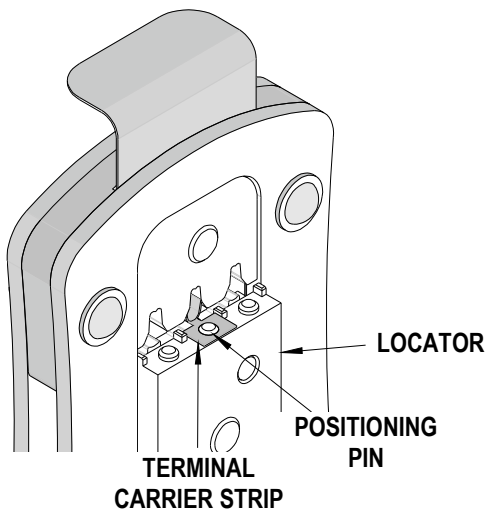

Figure 4
3. Place the properly stripped wire into the profile, making sure all the wire strands are captured inside the insulation stop/slot. Push the wire into the tool until the end of the insulation contacts the insulation stop. See Figures 4 and 5.